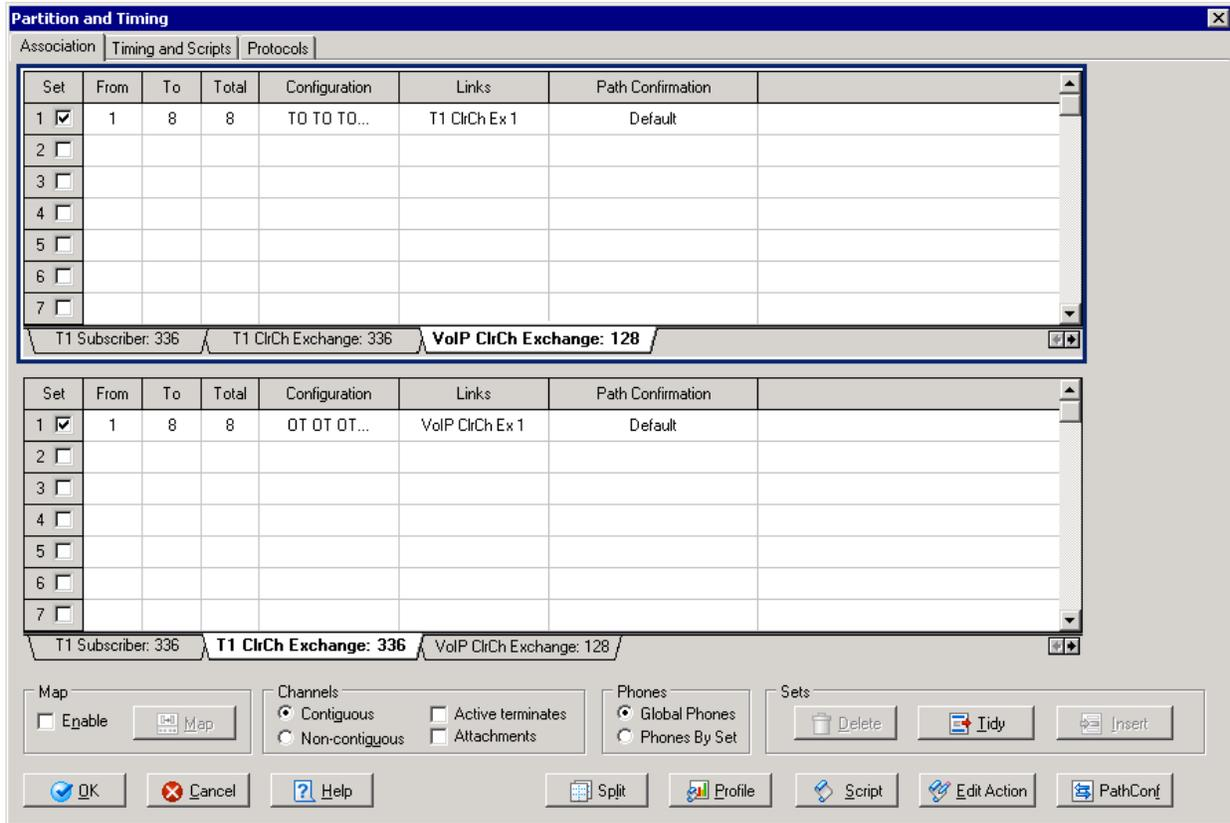

Figure 3. Partition and Timing Window – Association Panel
*Figure 3* shows an example where we configured a total of 8 channels linked in sets between T1 ClrCh Exchange 1 and VoIP ClrCh Exchange 1. For convenience, we used the **Split** button to show both panels in the same window. Clicking in turn in the **T1 ClrCh Exchange** panel and the **VoIP ClrCh Exchange** panel allows you to configure the PSTN and IP trunks. The links shown in the example are associated to Set number 1 and thus have Exchange 1 defined in the link name.